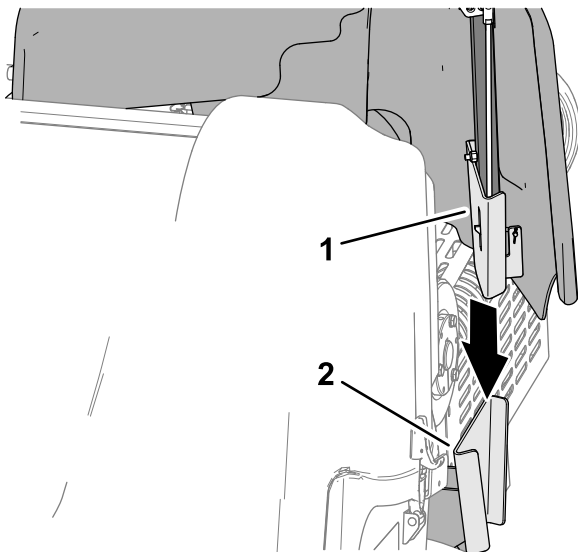

Figure 133
- Align the mount bracket of the belt cover with the cover-support bracket of the machine frame (Figure 133).